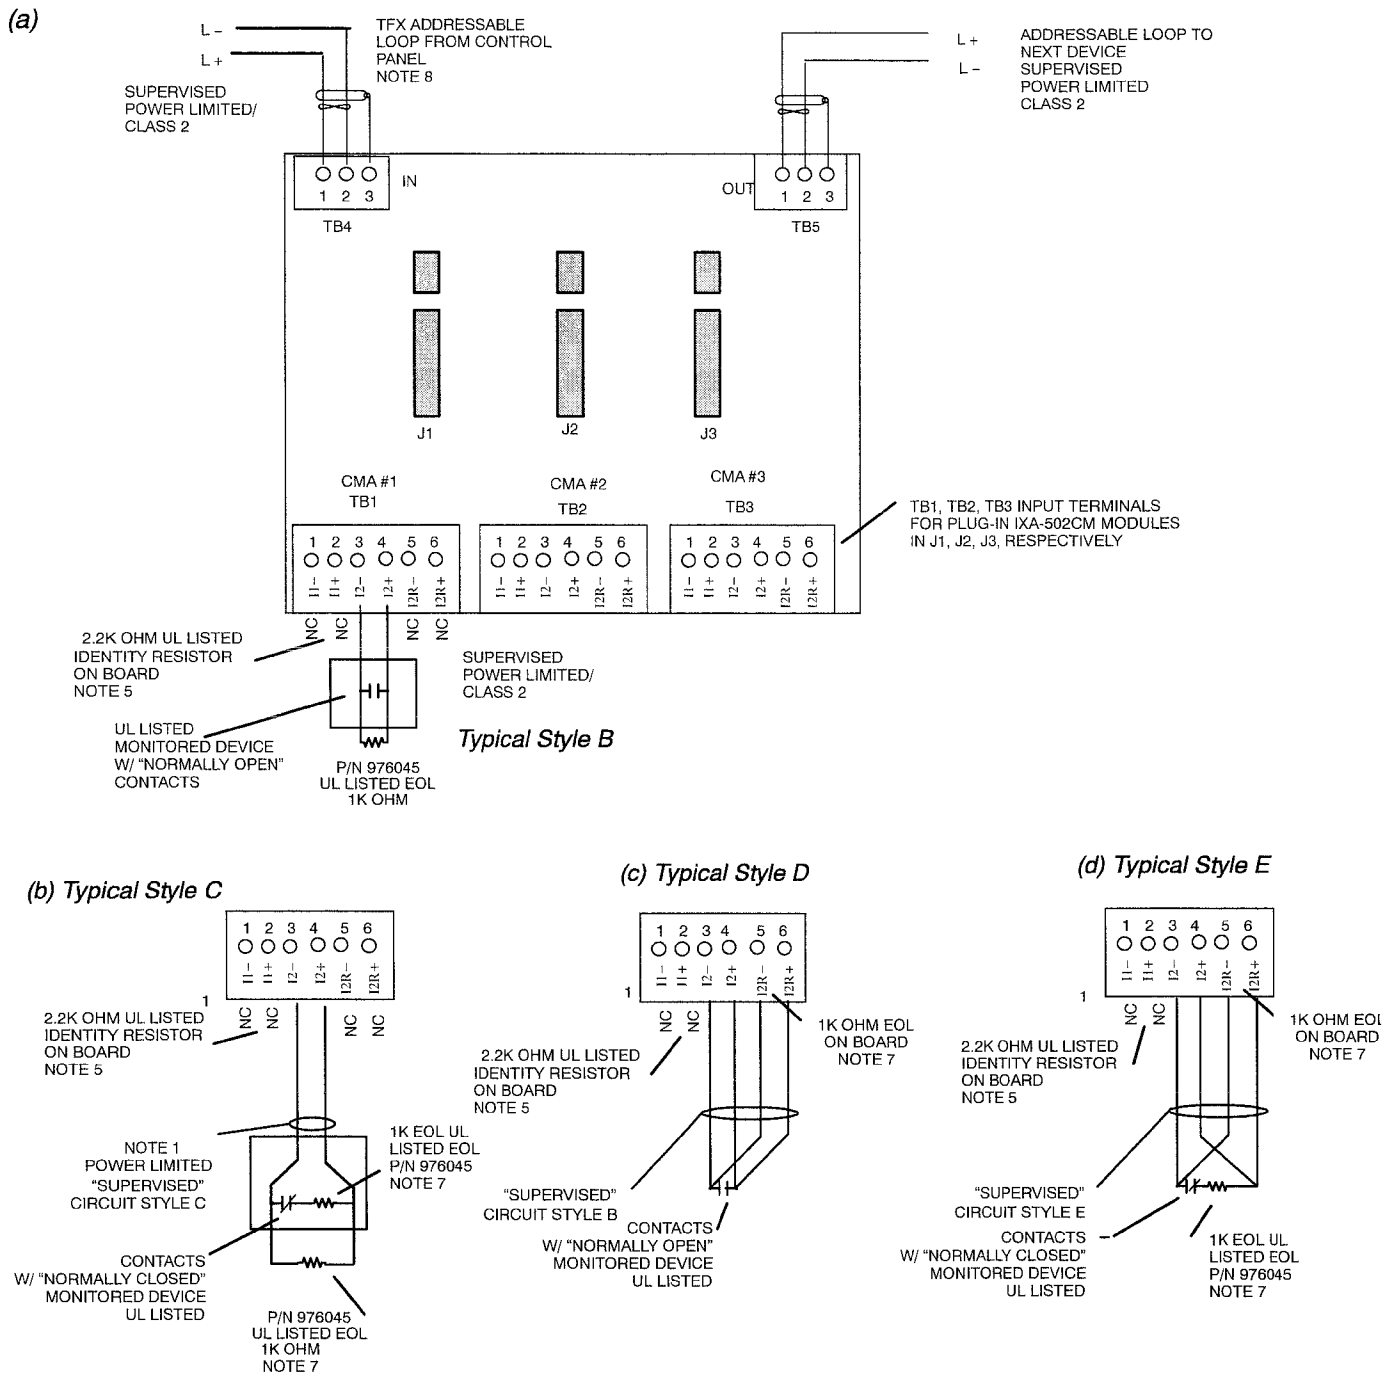

Figure 2. Typical Wiring for IXA-502CMA Modules (a) Style B, (b) Style C, (c) Style D, (d) Style E.
6. Connect the UL listed monitored contact device as shown in Figure 2 (a), (b), (c), (d).